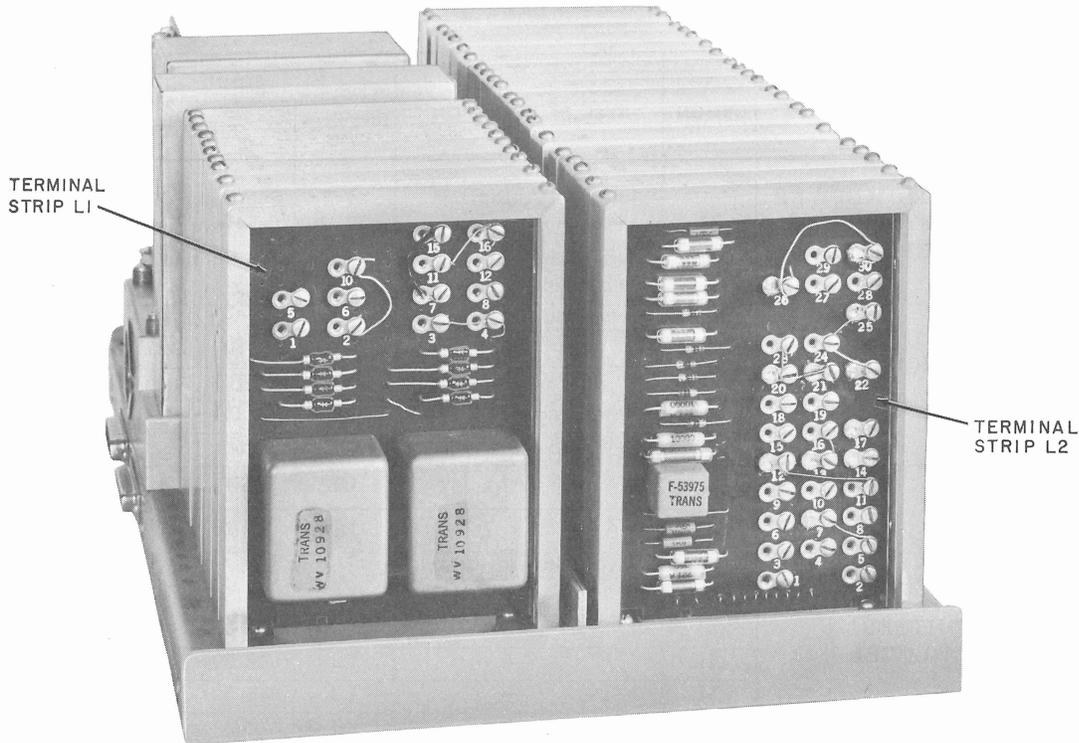

Fig. 1—Data Set 201-Type, Cover Removed
3.03 The following tables give strapping information for terminal strip L1 (see Fig. 1).
3.04 The following tables give strapping information for terminal strip L2 (see Fig. 1).